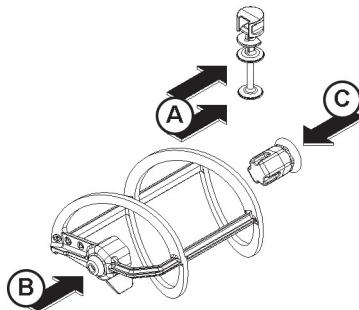

figure 17
- 2** Lubricate faucet piston, outer spiral and outside magnetic rotor (see points A, B and C of figure 17) only with the grease supplied by the manufacturer or other **food grade approved**